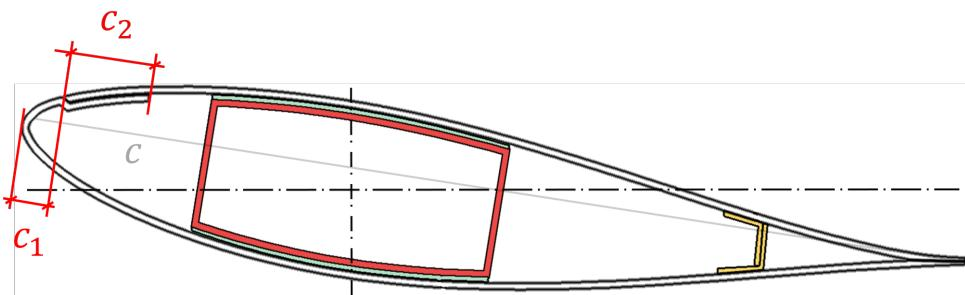

Figure 16: Skin overlap diagram
The location of this overlap is determined by its distance from the leading edge (LE) along the chord length. The diagram in Figure 16 shows the location of this overlap in relationship with the chord length of a station, where  $c$  is the chord length at the given station,  $c_1$  is the distance from the leading edge to the start of the skin overlap, and  $c_2$  is the length of the overlap along the chord length axis.